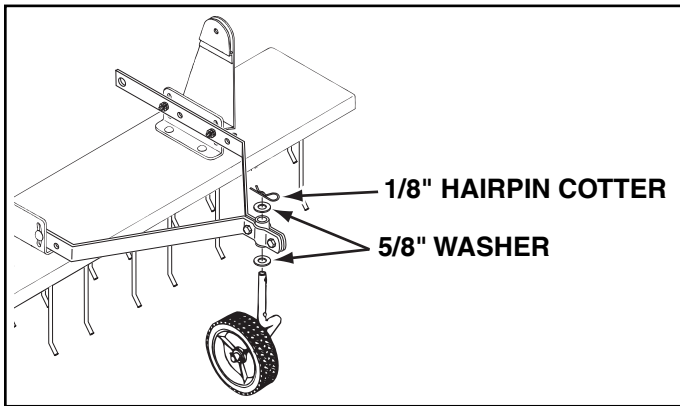

FIGURE 5
- Assemble a 5/8" washer onto axle. Insert axle up through axle bushing. Assemble another 5/8" washer onto axle and secure with a 1/8" hairpin cotter. See figure 5.